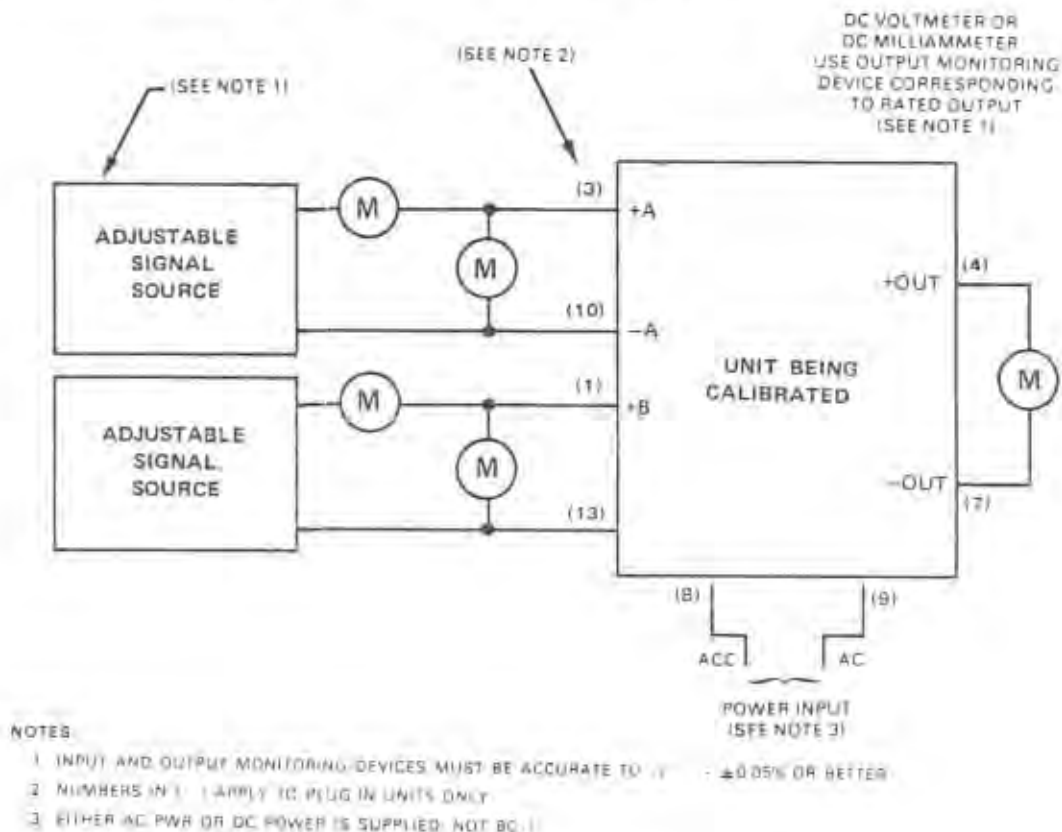

Figure 2-1. Test Equipment Setup For Calibration of Unit
The test equipment setup required for calibration of all units is identical except for connection identification. Figure 2-1 shows the general test setup configuration. Connection nomenclature refer to terminal markings on the standard units with CP, AB, AA/TA, PM, and NEMA boxes mechanical options.
Plug-in units equipment test setup is the same as the one shown in Figure 2-1, except that printed circuit board connections are identified in that figure by numbers in parentheses. Connection identification numbers are etched in the component side of the PC board. Plug-in unit: inserted in
a rack also use the test setup shown in Figure 2-1 with card rack terminal connections identified by numbers in parentheses. These include either the rack mount (RMR) or the surface mounted (SMR).
- b. Connect unit and test equipment as shown in Figure 2-1 or 2-2.